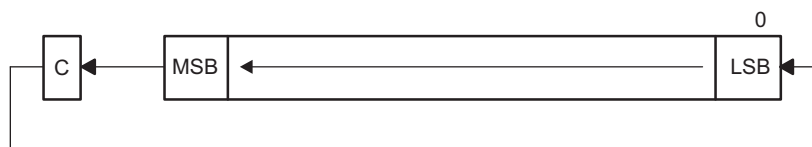

Figure 4-46. Destination Operand-Carry Left Shift
Description The destination operand is shifted left one position as shown in Figure 4-46. The carry bit (C) is shifted into the LSB and the MSB is shifted into the carry bit (C).